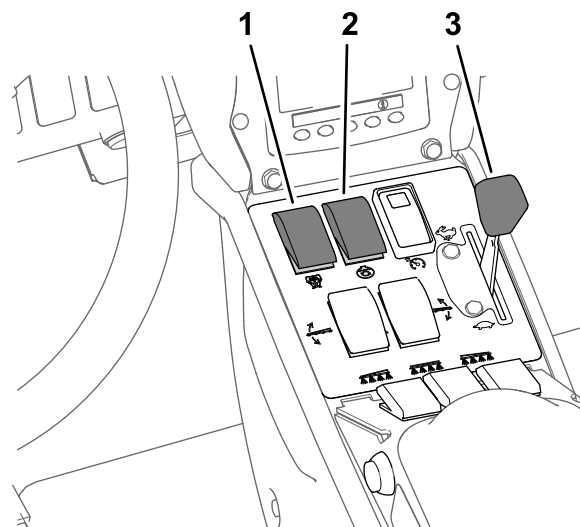

**Figure 30**
7. Set the spray section switch(es) to the ON position (Figure 30).
10. Drive at the desired speed and then set the master section switch to the ON position to begin spraying (Figure 30).
3. Set the master section switch to the OFF position; refer to Figure 30 in Spraying in the Application Rate Mode \(page 32\).
7. Set the individual section switches, as needed, to the ON position; refer to Figure 30 in Spraying in the Application Rate Mode \(page 32\).
9. Drive at the desired speed and then set the master section switch to the ON position to begin spraying; refer to Figure 30 in Spraying in the Application Rate Mode \(page 32\).